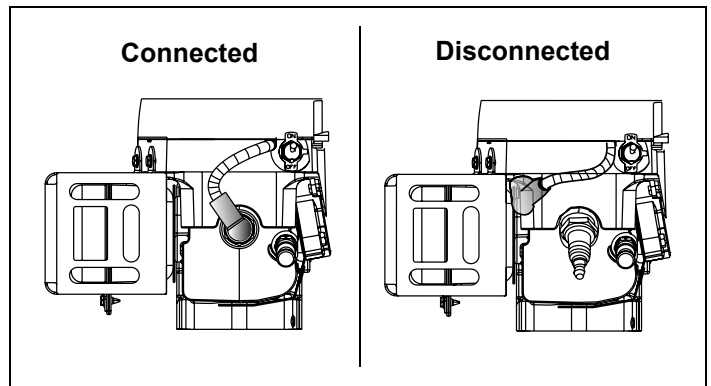

Figure 1. Disconnecting/Connecting Spark Plug
- Disconnect spark plug wire and keep it away from spark plug. See Figure 1.